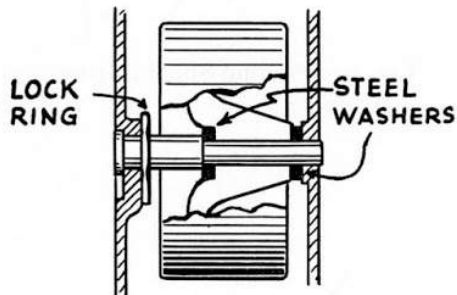

Fig. 7—Front Wheel Assembly
- c. To replace wheels start **shaft** through hole in casting and place **washer** on end of shaft. Next insert wheel into position and press shaft part way through wheel, then insert the inside washer and press hairpin retainer into place. See Fig. 7. for locations of washers.